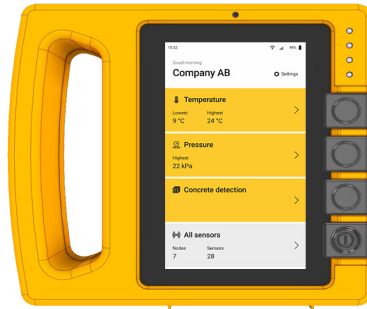

Fig. 04
11. Switch on the ISC hub. (Fig. 04)